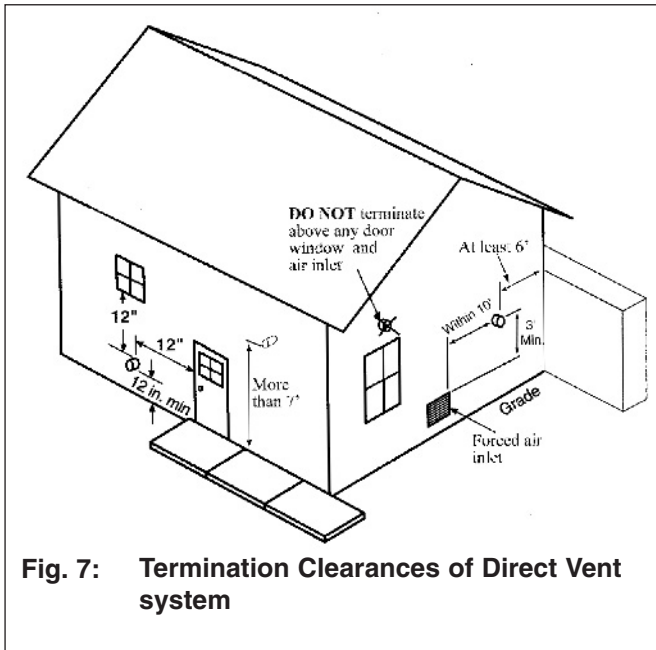

Fig. 7: Termination Clearances of Direct Vent system
6. The vent termination must also maintain the following clearances; as shown in Fig.7, page 11.